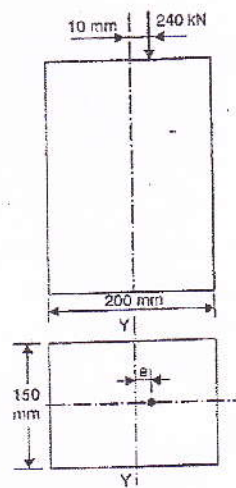

Fig.7.
b) A rectangular column of width 200 mm and thickness 150 mm carries a point load of 240 kN at an eccentricity of 10 mm as shown in fig.7. Find maximum and minimum stress on the section.